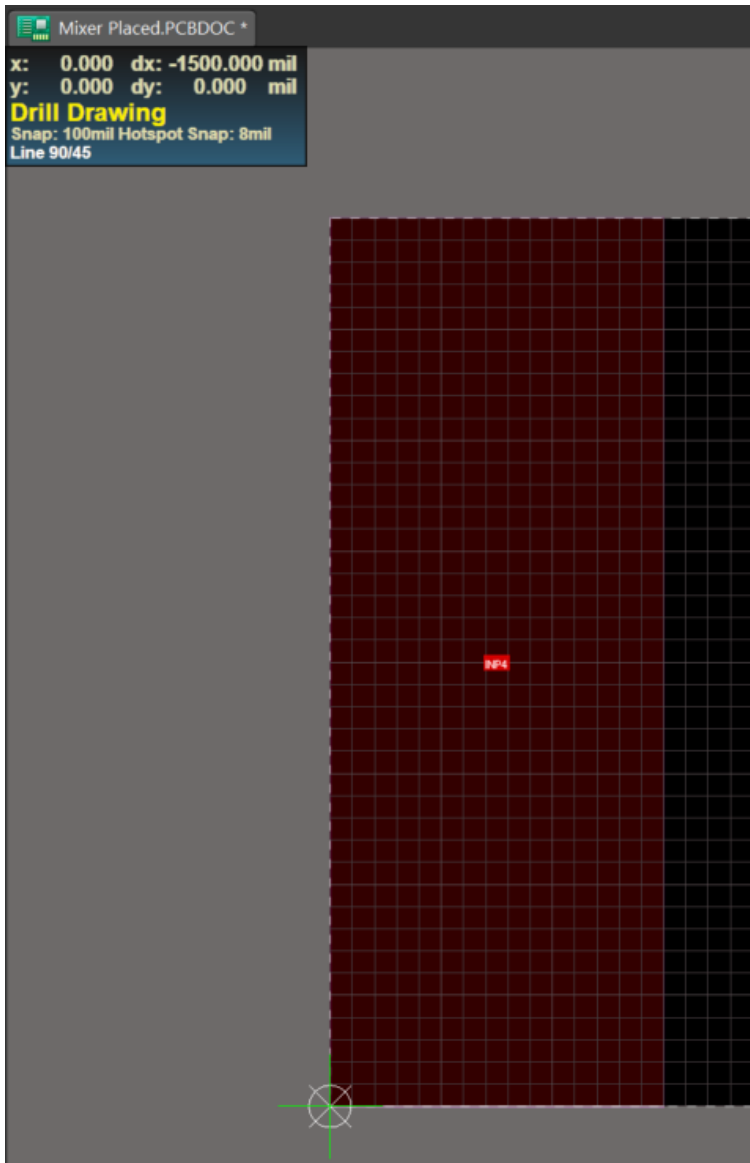

Figure 6. Resizing room INP4
11. Right-click to exit the command once you're finished. Your end result should look similar to Figure 6.